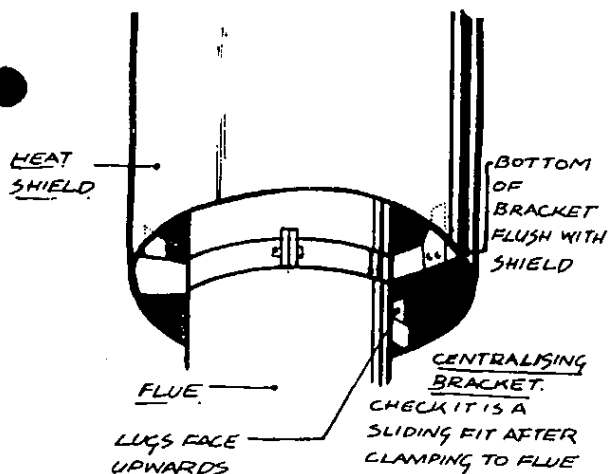

FIGURE 16
2.1.4 Clamp the Centralising Bracket with the lugs upwards, to the assembled Flue Sections so that the bottom of the bracket will be flush with the bottom of the Heat Shield when the flue is in place, Figure 16. Move the flue up and down to ensure that the Centralising Bracket is a free sliding fit within the Heat Shield. This is to accommodate expansion and contraction of the flue. If the bracket is tight, bend the ends of the arms slightly to achieve the desired fit.